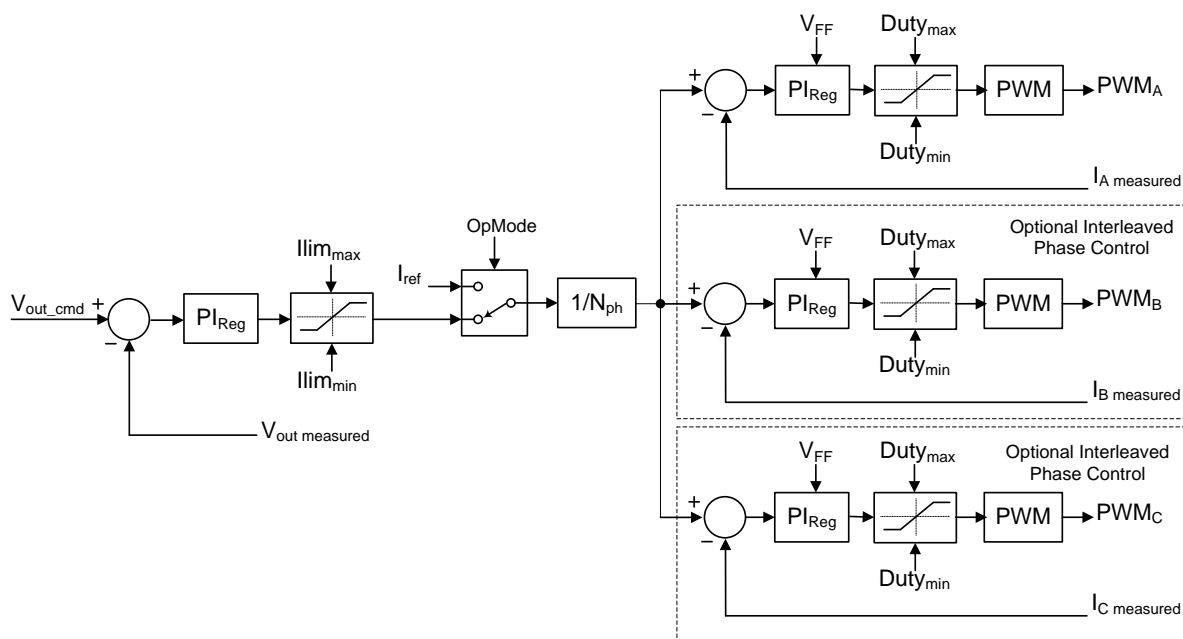

Figure 4 – Interleaved Voltage Controller
Figure 4 presents a block diagram of the control scheme employed in the firmware. The output voltage controller consists of a digital proportional-integral (PI) compensator. The reference input to the controller sets the value of the desired DC output voltage to be maintained. This reference is compared to the measured output voltage, providing the voltage error input to the compensator. The output of the compensator represents the output current command which is limited to a min/max value before being attenuated by the interleaved phase count.